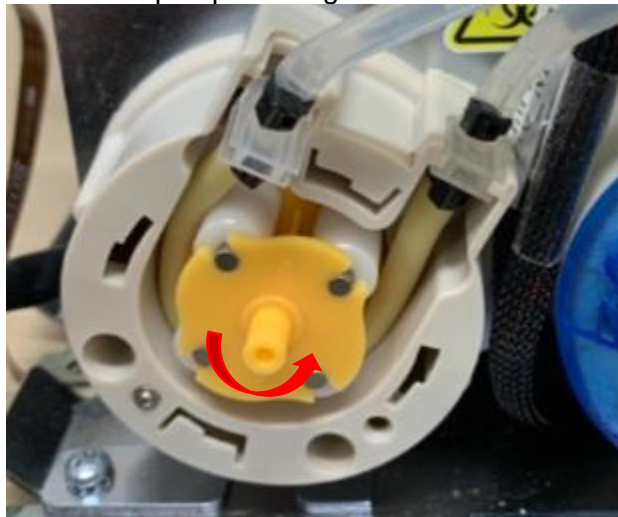

Figure 23
- 4.2. Remove the old tubing from the Wash Pump by gently pulling on the tubing through the alignment tabs within the pump housing. Rotate rotor to assist in removal. Figure 23.